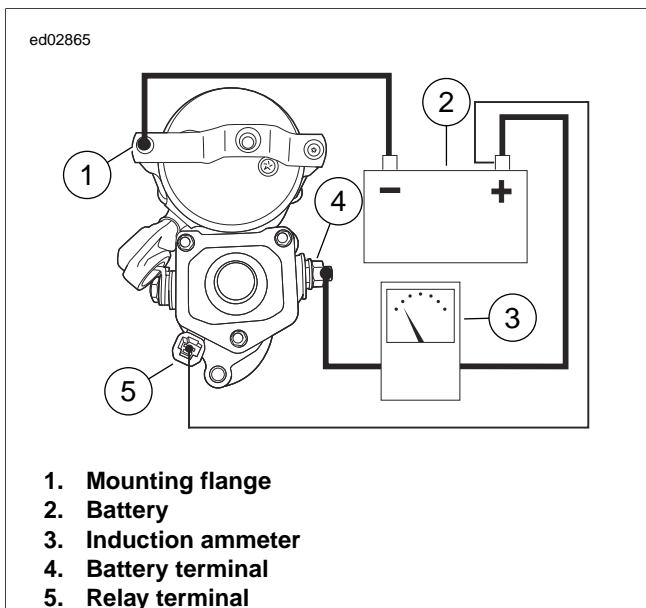

Figure 1-8. Free Running Current Draw Test
2. See Figure 1-8. Attach one heavy jumper cable (6 gauge minimum).
- a. Connect one end to the starter mounting flange (1).
- b. Connect the other end to the negative (-) terminal of a fully charged battery (2).
- a. Connect one end to the positive (+) terminal of the battery (2).
- b. Connect the other end to the battery terminal (4) on the starter solenoid. Place an inductive ammeter (3) over cable.
- b. Connect the other end to the solenoid relay terminal (5).